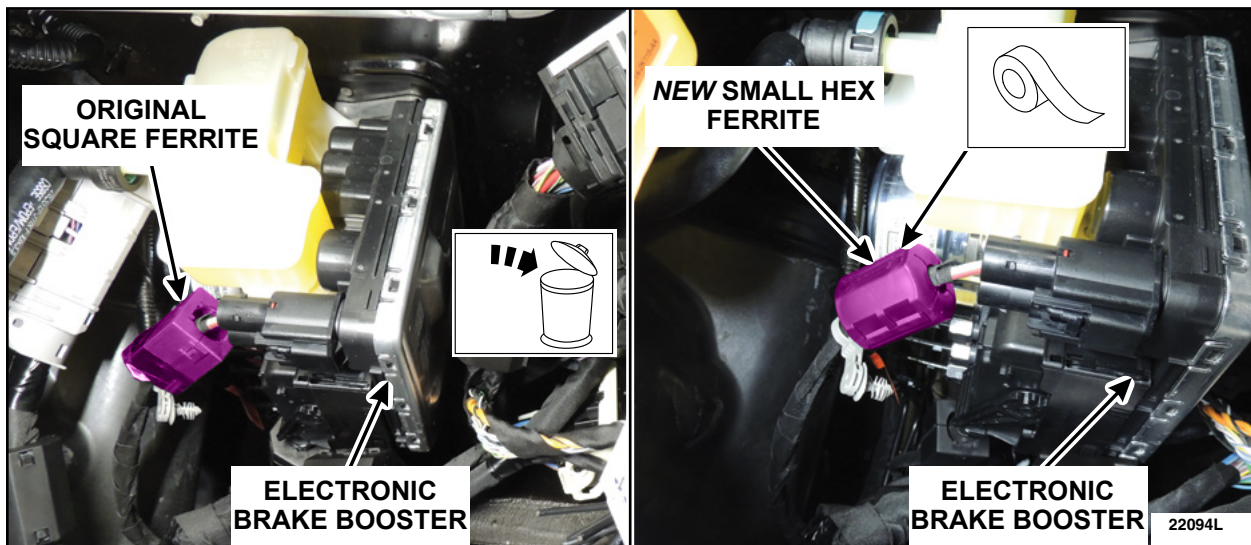

FIGURE 13
19. Remove and discard the square ferrite from the Electronic Brake Booster (EBB) upper electrical connector, then install a *new* **SMALL** hex ferrite (item C). See Figure 13. Apply 3 wraps of Coroplast® tape around the *new* ferrite to secure it closed.